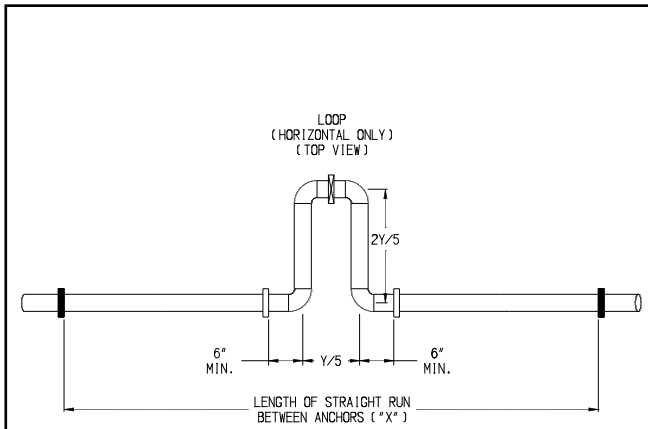
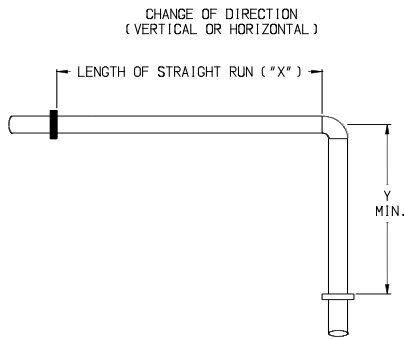

FIGURE 7.3a
FIGURE 7.3c
- For CPVC/PVC pipe design the vent system to allow 3/8" of thermal expansion for every 10ft of CPVC/PVC pipe. The boiler will always act as an anchor to one end of the vent system. If at all possible, select and install hangers and wall thimbles so that the vent system can expand towards the terminal. When a straight run of pipe exceeds 20ft and must be restrained at both ends, an offset or expansion loop must be provided (Figures 7.3a, 7.3b). When a straight horizontal run of pipe exceeds 20ft and is restrained at one end with an elbow at the other, avoid putting a hanger or guide less than "Y" inches from the elbow in the adjoining straight section (Figure 7.3c). Thermal expansion fittings are not permitted.